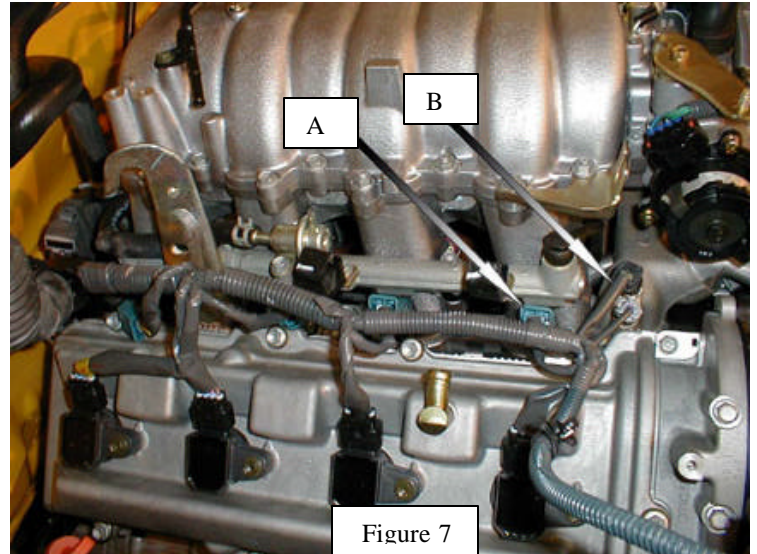

Figure 7
11. Disconnect passenger-side injector connectors from injectors (Arrow A, Figure 7).
12. Disconnect coolant sensor connectors from water crossover manifold (Arrow B, Figure 7)